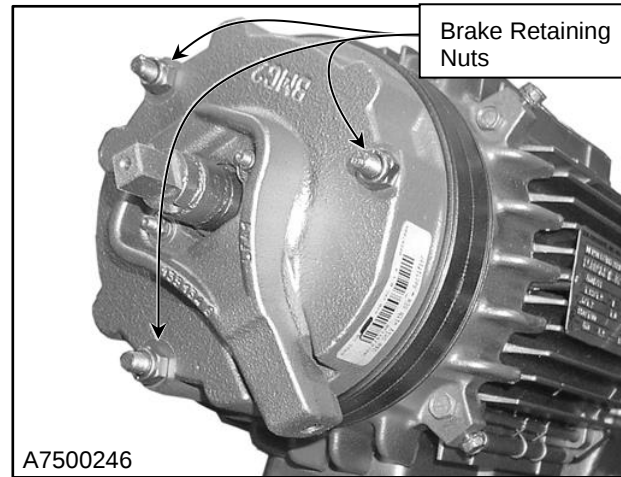
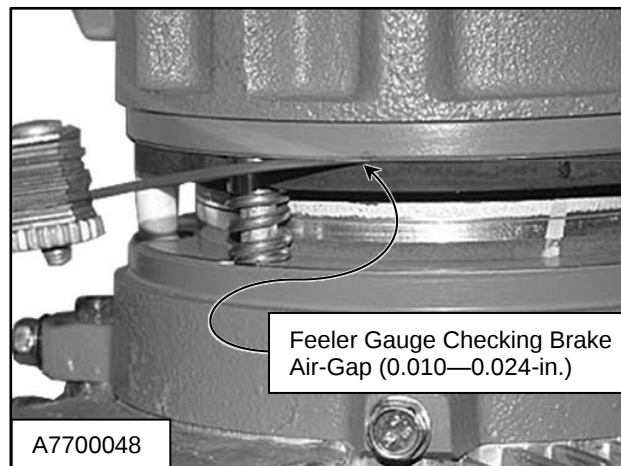

Figure 39
Figure 40
4. Using a feeler gauge and a nut driver, adjust the retaining nuts until you achieve the proper air-gap (0.010–0.024-in.). (See Figure 39 and Figure 40)